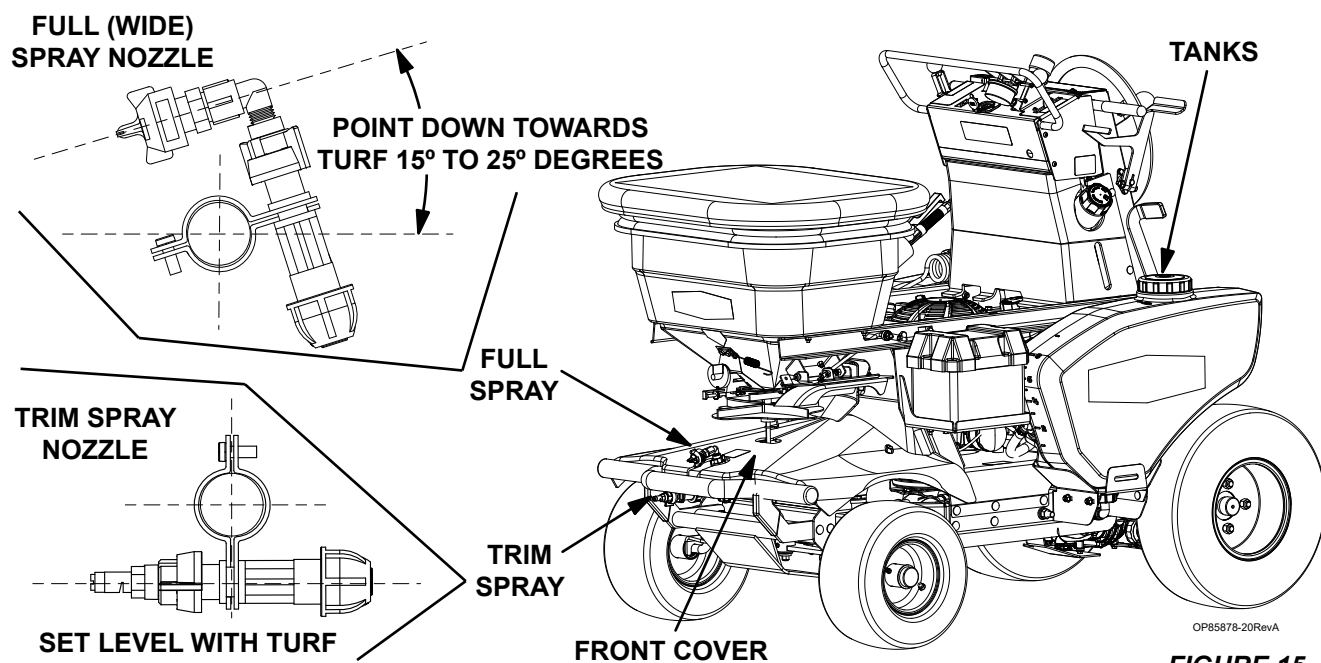

FIGURE 15
4. TANKS (See Figure 15) - The Turfco T3200 Applicator has two liquid tanks. Each tank has a capacity of 10 gallons for a total of 20 gallons (75.1 liters). The tanks are connected to maintain an equal balance in both tanks. The product being sprayed is equally pumped from both tanks and any by-pass of product is equally returned to both tanks. The by-pass flowing back to the tanks is the agitation in the tanks to maintain product mix. Liquid solutions are all that are supposed to be used in these tanks. Wettable (soluble) powders may plug the system and should not be used. **PROPERLY MIX THE PRODUCT BEING SPRAYED OUTSIDE OF THE TANKS BEFORE FILLING THE TANKS. TO AVOID CONTAMINATION OF WATER SUPPLIES, NEVER PLACE A HOSE DOWN IN THE TANK.**